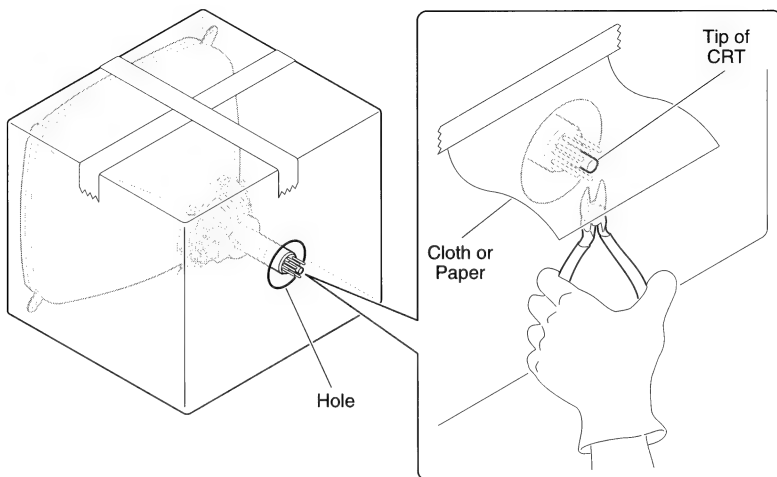

Figure 3 Devacuuming the CRT
3. Place the CRT inside the box with the tip of the neck protruding through the hole, and tape the box flaps down with the duct tape (Figure 3).
4. Put on the gloves and, using the diagonal cutters, carefully clip off the connector pins on the end of the CRT neck (Figure 3).
5. Tape the piece of cloth or paper onto the box so that it forms a veil over the opening, but allows access to the tip of the CRT (Figure 3). The purpose of the veil is to catch bits of glass that may fly during the next step.